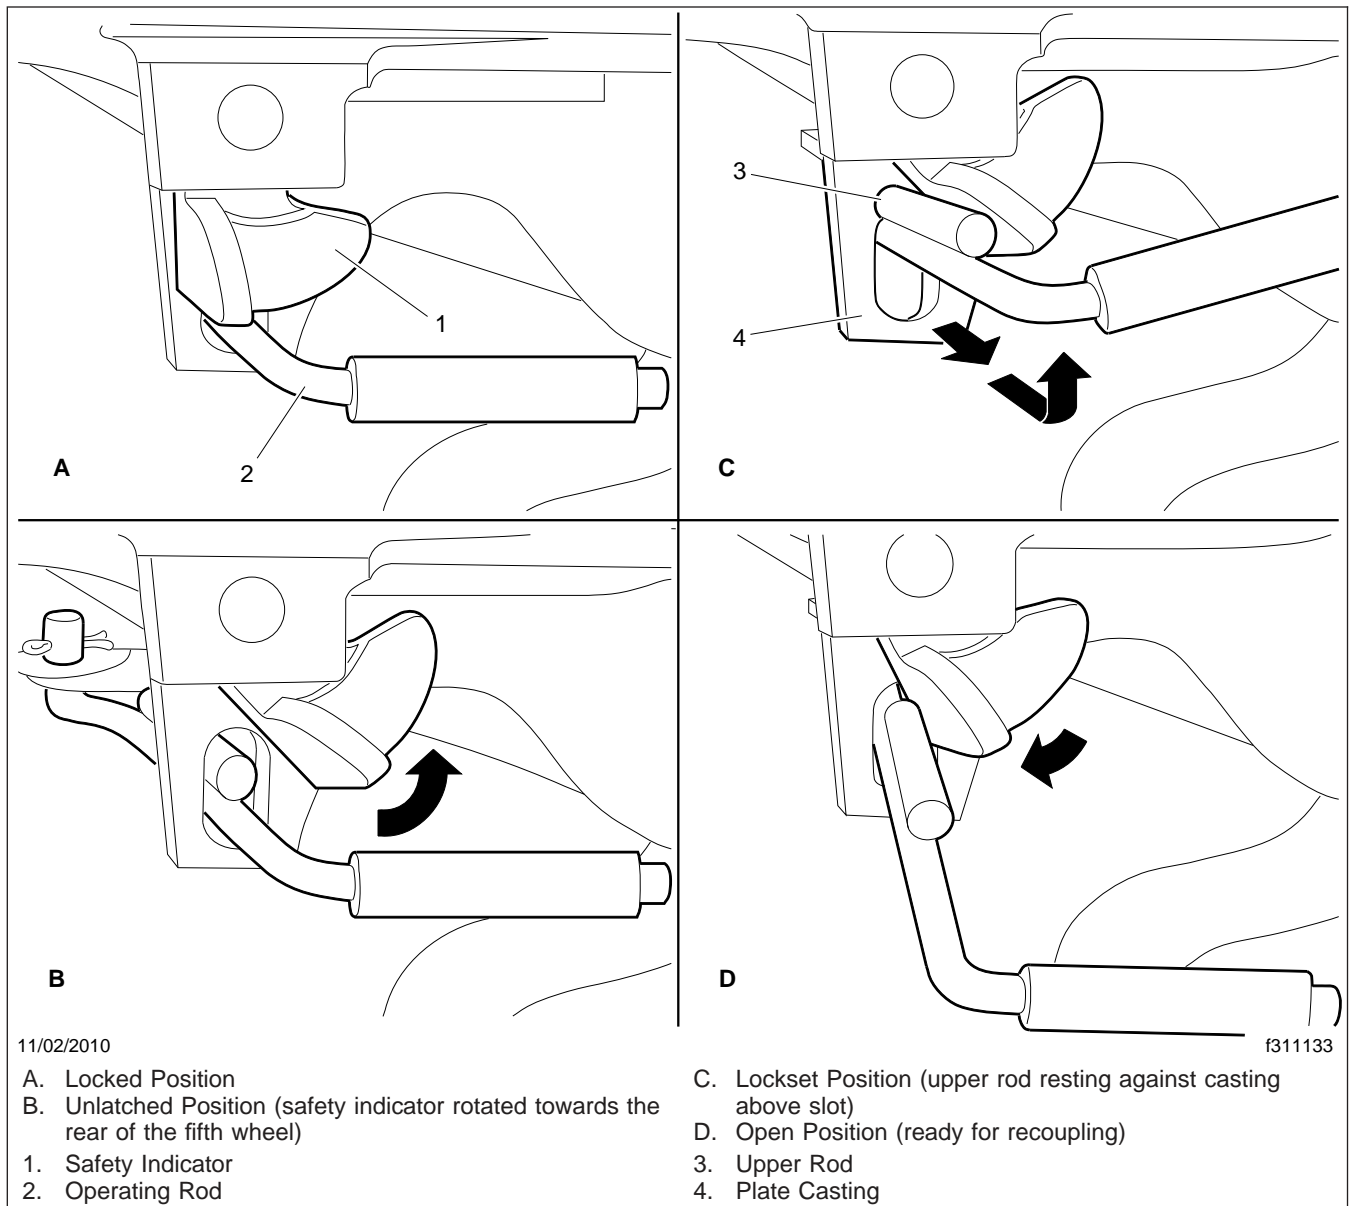

Fig. 18.9, Holland Kingpin Locking Mechanism
- Holland:** In the locked position the safety indicator swings freely over the operating rod. See Fig. 18.9, View A.
To unlock the mechanism, manually rotate the safety indicator toward the rear of the fifth wheel. See Fig. 18.9, View B.
Pull the operating rod out. When the upper operating rod shoulder is outside the slot, raise the handle and place the shoulder of the upper rod against the plate casting, above the slot. See Fig. 18.9, View C.
The fifth wheel is now in the lockset position and is ready for uncoupling. As the tractor pulls away from the trailer the kingpin forces the jaw to rotate, contacting the lock. Continued rotation of the jaw forces the lock to move outward, and drops the upper rod back into the slot. See Fig. 18.9 View D. The wheel is now ready for coupling.